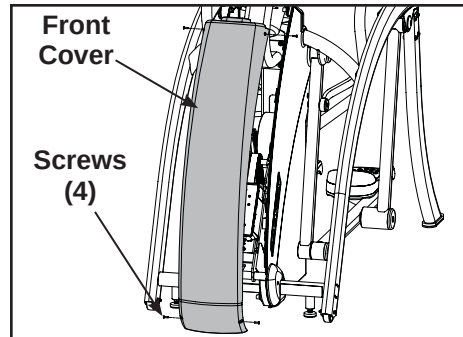

Figure 2
- A. Using a Phillips screwdriver, remove the four screws securing the front cover. See Figure 2.